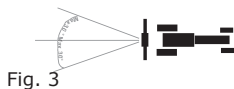

Fig. 3
- Never exceed the max admissible pull angle of 30° (Figure 3).